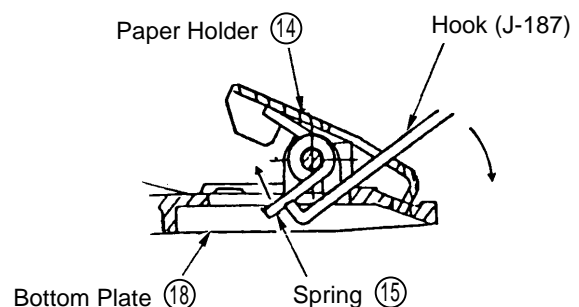

Fig. 9
- D. Finally, insert a J-187 Hook (special Repair Tool, Code No. 970968 through the Paper Holder ㉒ hole and into the elongated hole of the Bottom Plate ⑱. Then, as illustrated in Fig. 9, pry the projecting coil of the Spring ㉒ upward and over so that it hooks onto the projection provided on the Bottom Plate ⑱, and fixes the Spring ㉒ in position.
- (2) Reassembly of the Balance Weight Section: